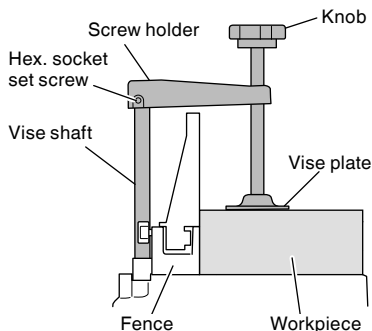

Fig. 24
- (1) The vise assembly can be mounted on the base.
- (2) Turn the upper knob and securely fix the workpiece in position (Fig. 24).